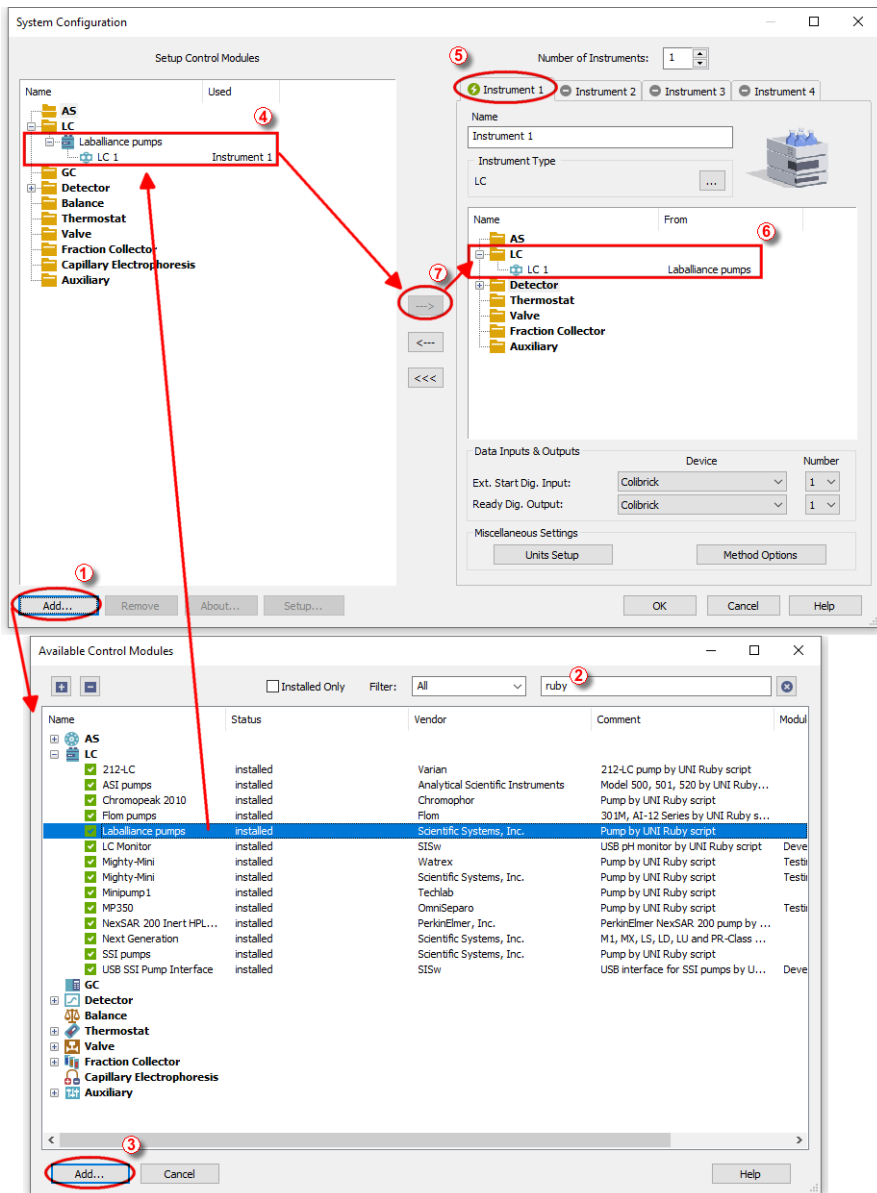

Fig 3: How to Add SSI Pumps module
- Press the **Add** button (① on **Fig 3** on pg 4.) to invoke the **Available Control Modules** dialog.
- You can specify the search filter (②) to simplify the finding of the driver.
- Select the correct item and press the **Add** (③ on **Fig 3** on pg 4.) button. Each device with already created UNI profile should have its own item named accordingly in the **Available Control Modules** dialog.